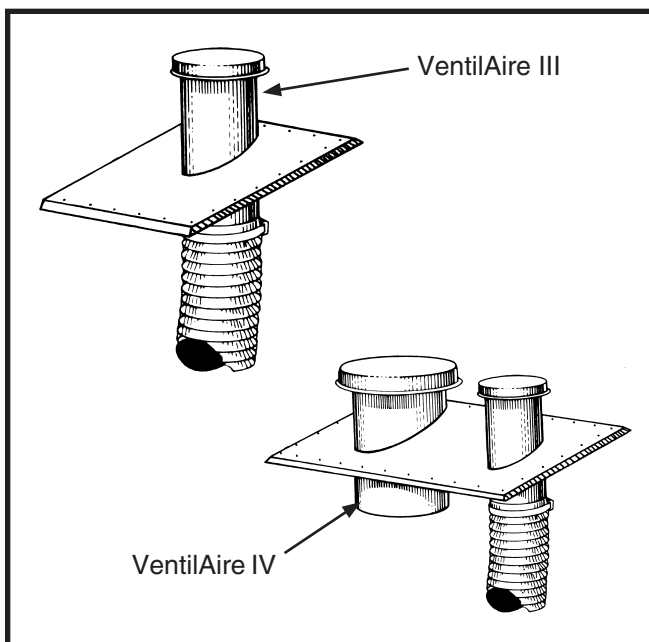

Figure 2. VentilAire III & IV
The VentilAire air quality packages are available to meet the ventilation requirements as outlined in H.U.D. Standard Part 3280.103 (b) (2). These packages introduce outdoor air into the living space during furnace blower operation. The VentilAire IV also serves to exhaust moist and/or hot air from the attic space. See Figure 2 for typical installation. Complete installation instructions are supplied with each air quality package.